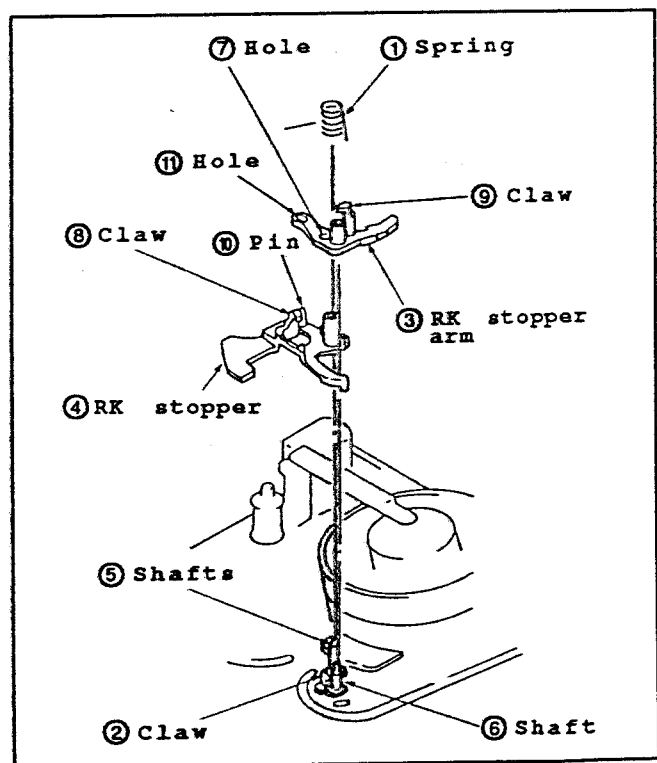

Fig.II-13
- Disassembling (Fig.II-13)
- (1) Remove the screw ①.
- (2) To take off the RK stopper arm ③, unhook the claw ② of chassis.
- (3) Take off the RK stopper ④.
- Reassembling (Fig.II-13)
- (1) Assemble the RK stopper ④ onto the shaft ⑤.
- (2) Assemble RK stopper arm ③ onto the shaft ⑥ while inserting the pin ⑩ to the hole ⑪. Then, secure it by hooking the claw ② to the hole ⑦.
- (3) Install the spring ① to the shaft ⑤. Then, hook it to the claws ⑧ and ⑨, respectively.